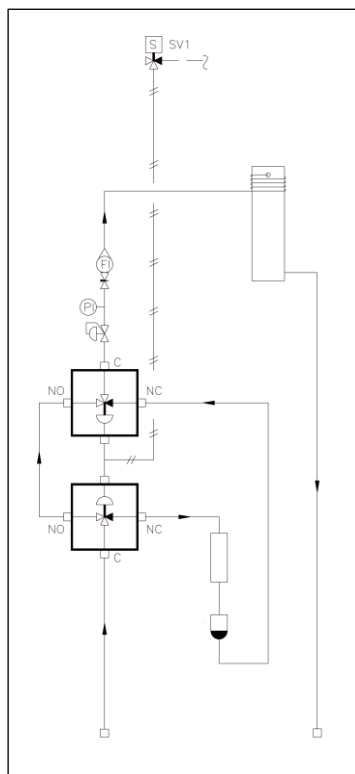
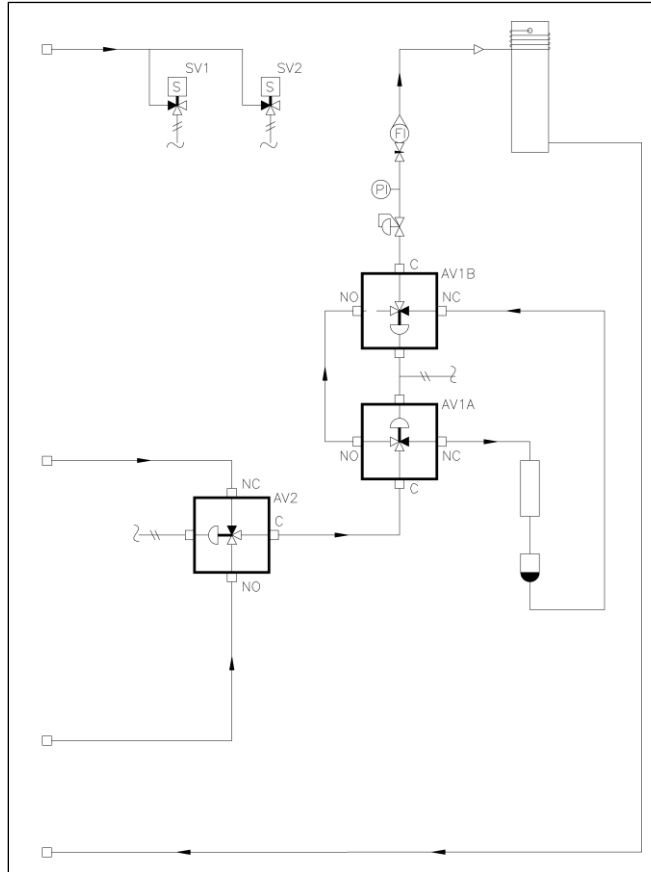
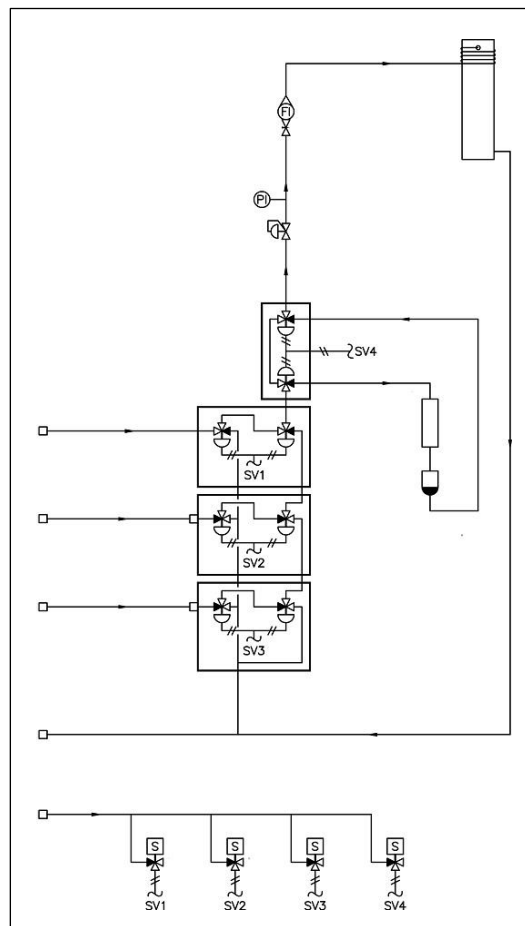

Fig 18. Preferred basic differential system with one solenoid valve driving two pneumatic valves.
Fig 19. Differential system with single auto-validation requiring two solenoid valves driving three pneumatic valves.
Fig 20. Differential system with dual auto-validation requiring four solenoid valves driving eight pneumatic valves
Differential systems require solenoid valves to switch between process flow and flow that has been scrubbed of the analyte. The solenoids switch the flow directly, as shown in *Fig 17. Basic differential system with two solenoid valves*, or via instrument air driving pneumatic valves, as shown in *Fig 18 through Fig 20*. For more information, refer to *Differential TDLAS*.
A schematic of a typical basic differential setup for installations where no instrument air is available to drive pneumatic valves is shown in *Fig 17*. A preferable setup is shown in *Fig 18* where only one solenoid is required in favor of more reliable pneumatic valves. Systems set up for auto-validation with one gas require two solenoids, as shown in *Fig 19*, whereas auto-validation with two gases requires four solenoids, as shown in *Fig 20*.
- For valve configurations refer to *Fig 17* through *Fig 20*.